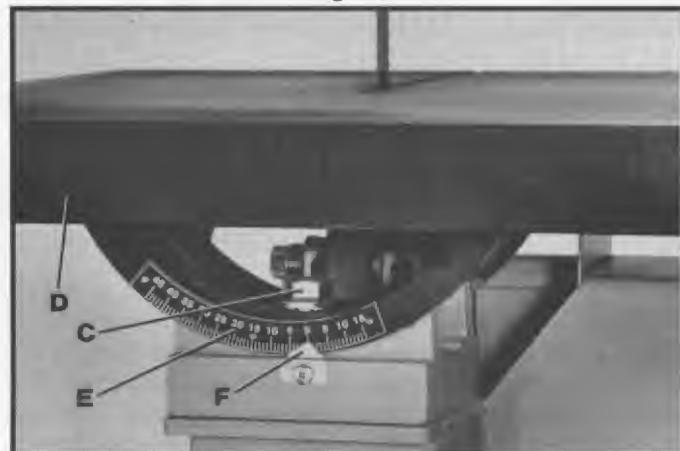

Fig. 19
1. Loosen nut (C) Fig. 19, and tilt table (D) to the desired angle and tighten nut (C). A scale (E) and pointer (F) are provided to indicate the degree of table tilt.